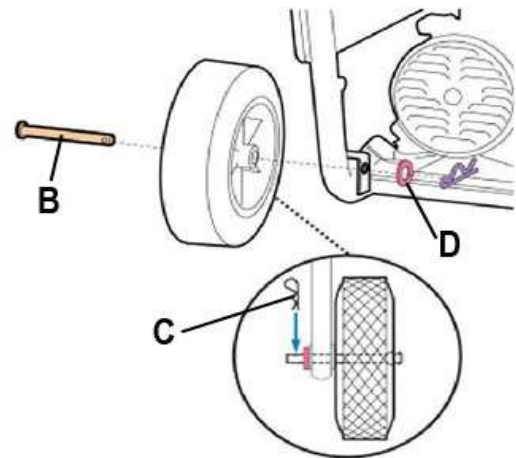

Figure 2-1: Wheel & Feet Assembly
1. Refer to Figure 2-1 and install the Wheels as follows: